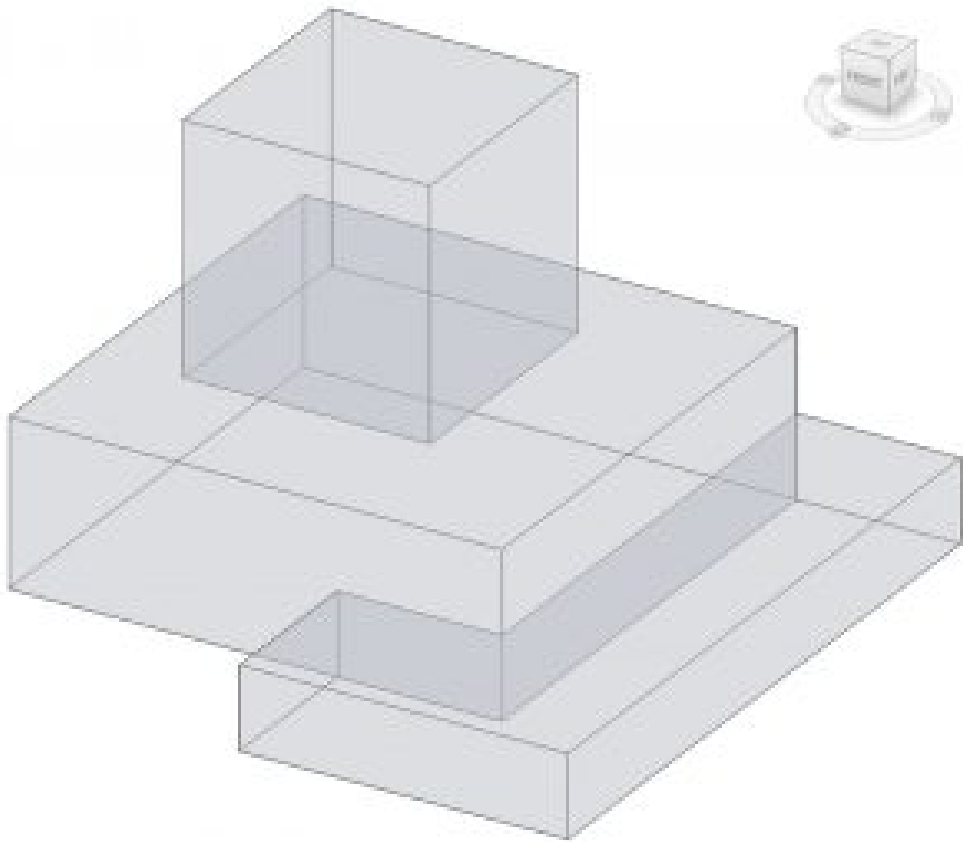

Figure 6.2 Completed massing shown in 3D view
18. Repeat steps 13 through 16 until all three masses have been created as shown in Figure 6.2